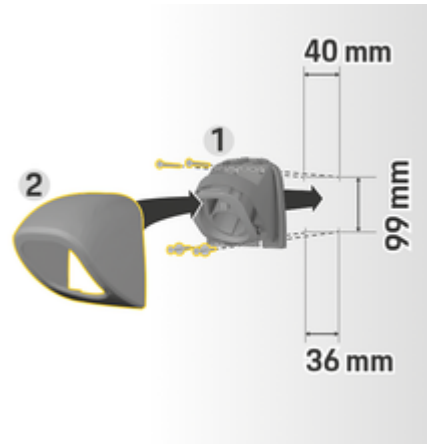

Fig. 15 Drilling dimensions
1. Remove the connector fastener 1 (Fig. 15) from the cover 2 (Fig. 15).
4. Screw the connector fastener 1 (Fig. 15) onto the wall.
5. Fit the cover 2 (Fig. 15) onto the connector fastener 1 (Fig. 15) from below and push up.